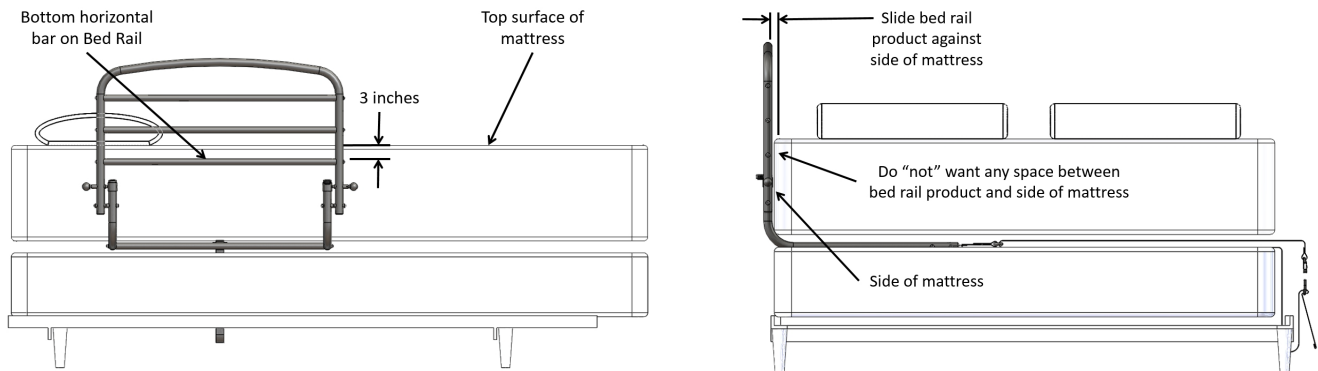

FIGURE 6
6. **WARNING:** For safety purposes, it is important that both conditions shown below are followed. First, the bottom horizontal bar on the bed rail must be 3" below the top surface of mattress. Second, no space should exist between bed rail and side of mattress. Secure the SAFETY STRAP to the bed frame, as shown in Figure 6 below. Unbuckle strap and loop strap around bed frame and re-buckle. Tighten strap to secure Handle Assembly against the side of the mattress as seen in Figure 6.